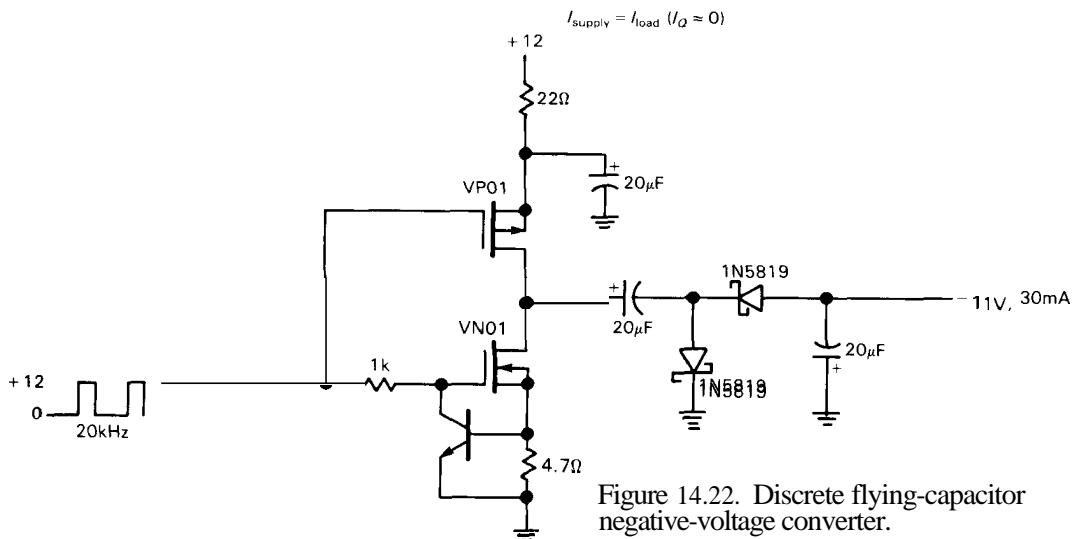
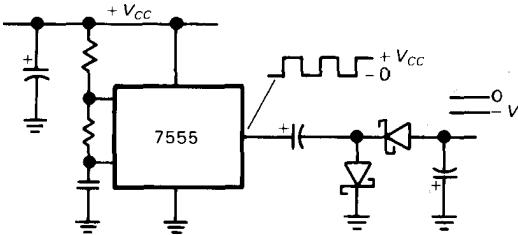

Figure 14.22. Discrete flying-capacitor negative-voltage converter.
Figure 14.23. Negative-voltage generator from a positive square wave.
2. To generate a larger negative voltage, you can use discrete MOS transistors in a flying-capacitor circuit (Fig. 14.22). The particular example shown idles at a few microamps and generates up to 30mA. **3.** Figure 14.23 shows a simpler method, again somewhat limited in voltage range, using the CMOS 7555 timer chip. You can power the 7555 from a positive supply in the range 2 to 18 volts, thus generating up to -15 volts or so. With a voltage multiplier (see Section 1.28) you can, of course, generate higher voltages, with correspondingly poorer regulation. If you have some CMOS logic in your circuit, you can use the output of a CMOS gate instead of the 7555. However, if you're using a high-performance CMOS family such as HC/HCT or AC/ACT, then you are limited to 5 volt logic swings, whereas the older 4000 or 74C series permit 15 volt swings, albeit at lower current.